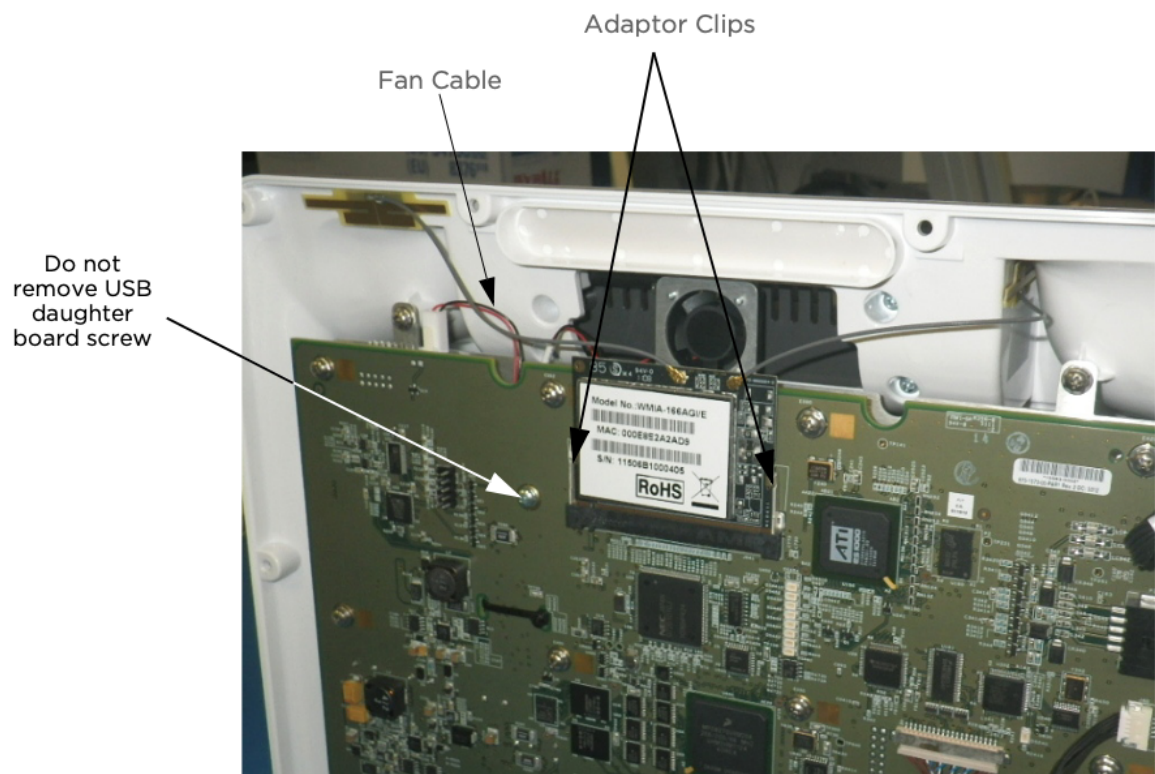

Figure 4-6 Wireless Antenna Cables
- 2 To remove the two antenna cables from the wireless card, use the 003-0286-00 antenna extraction tool as shown in Figure 4-6.
- Do not remove the screw that secures the USB daughter board to the CPU PCB. Refer to Figure 4-6.